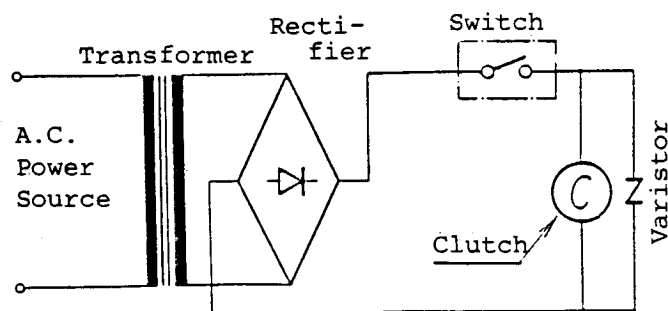

Fig. 2
- (1) The clutch is operated on a power source of DC 24V. Power source fluctuation should be kept within $\pm 10\%$.
- (2) ON-OFF operation should be carried out by installing a switch on the DC side. If carried out on the AC side there will be a delay in operating time. (Fig. 2)